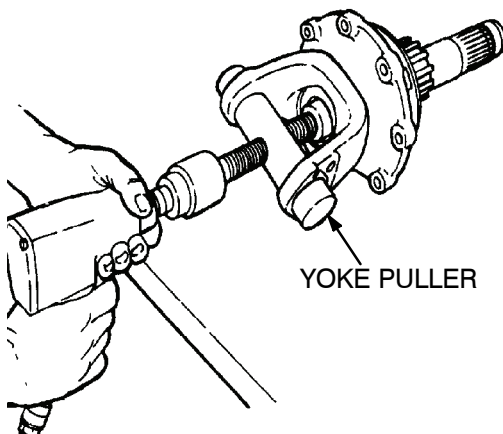

Figure 19. Input Shaft Yoke Removal.
- (1) Use the correct tool to remove the yoke from the input shaft. Figure 19.